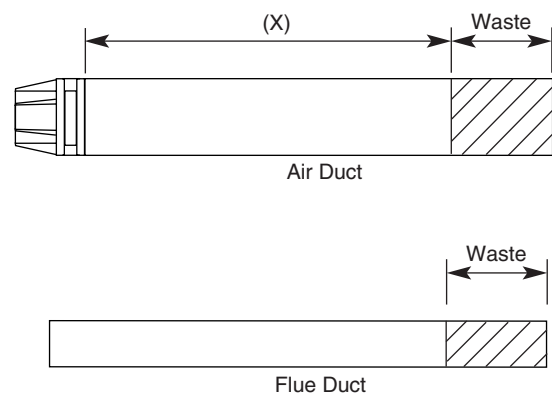

Fig. 21
4. Taking the air duct, mark dimension 'X' as shown (Fig. 21). Measure the length of waste material, and transfer the dimension to the flue duct (Fig. 21).